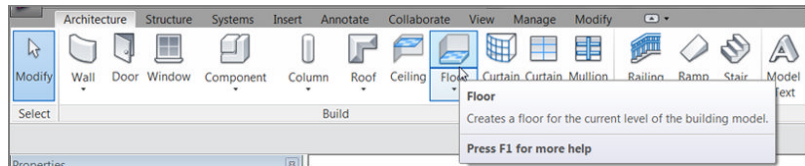

FIGURE 6.1: The Floor button on the Architecture tab
3. On the Architecture tab, click the Floor button, as shown in Figure 6.1.